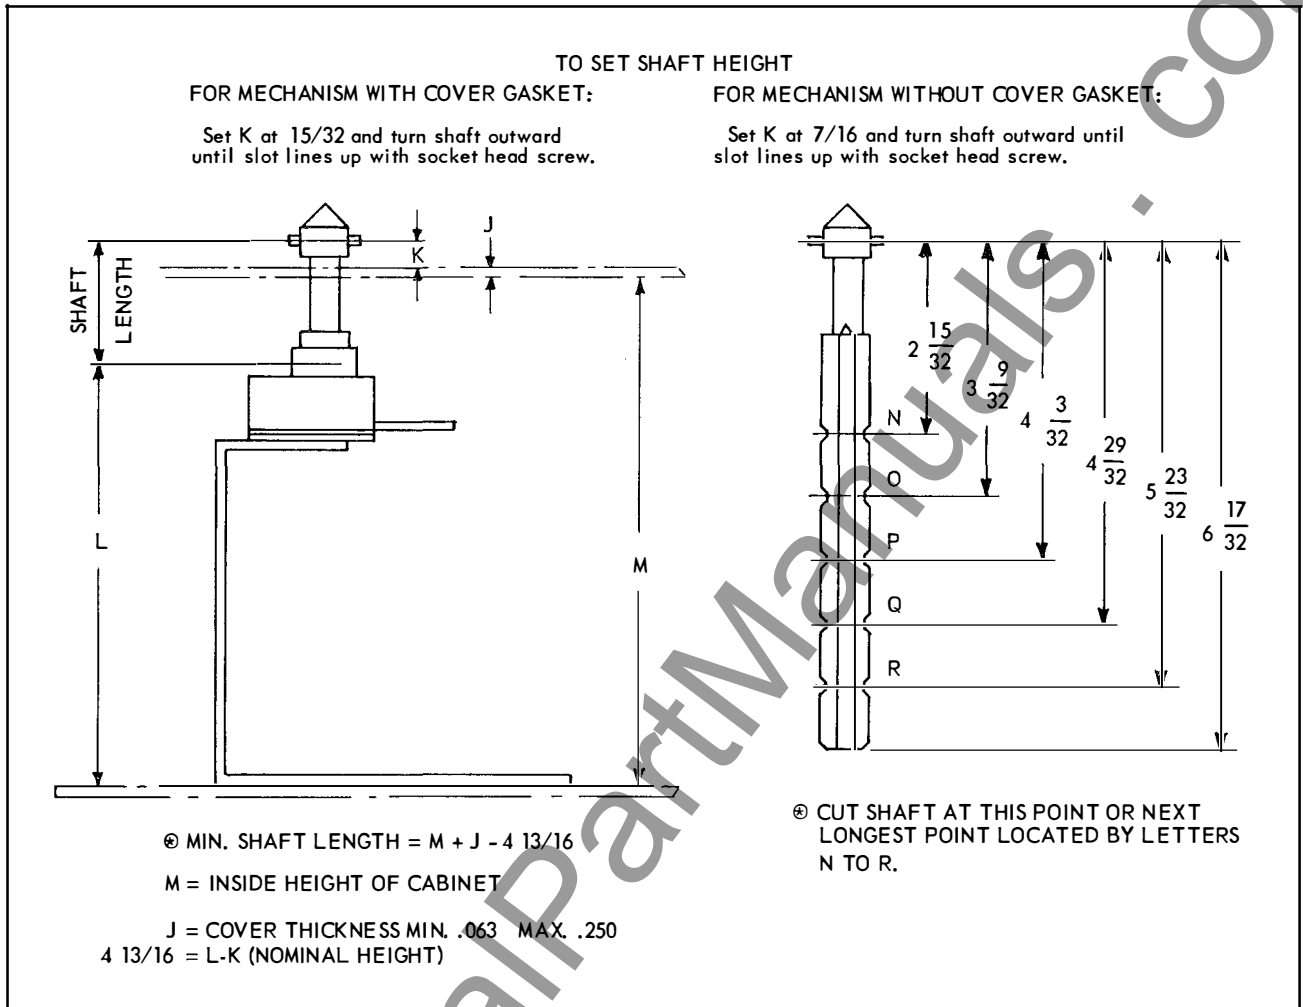
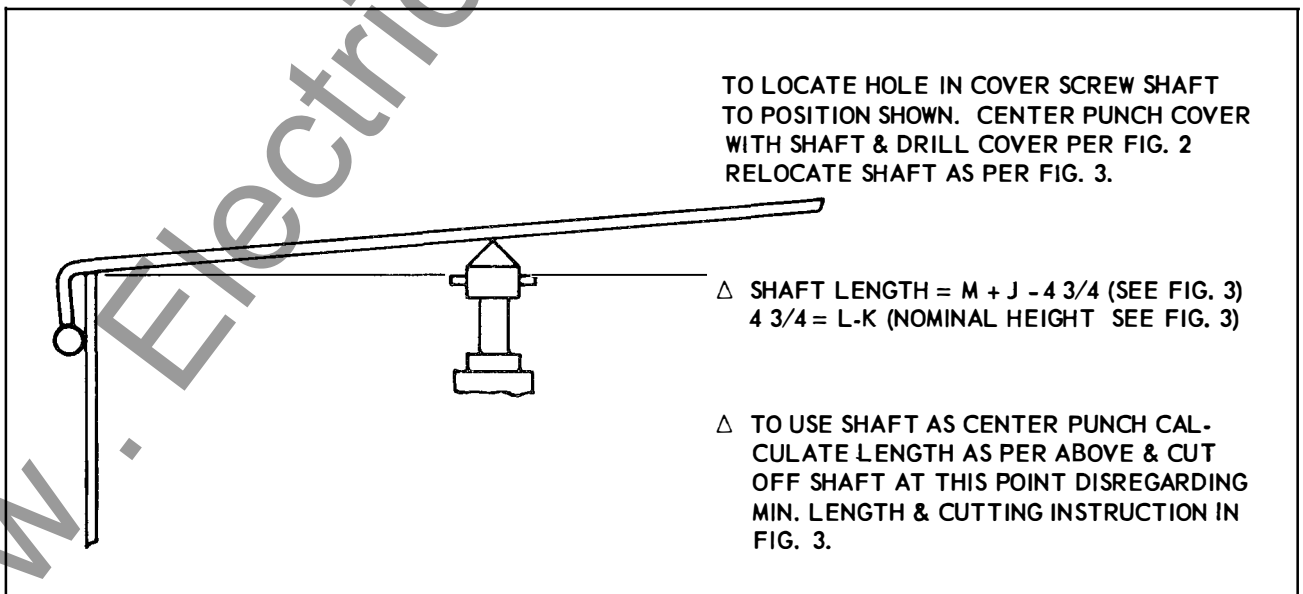

FIG. 3. Determining Length of Shaft
FIG. 4. Center Punching of Cover Using Shaft
3. Assemble operating assembly (5) to frame (4) with the three .190-32 round head screws packed in cloth bag.
4. Determine length of shaft (6) as per Fig. 3 and cut off at groove provided. Set K as shown in Fig. 3 and lock shaft (6) with socket head screw (2).
5. Shaft may be used as center punch to locate hole in cover (Fig. 2). Calculate length as per Fig. 4 and cut off at this point disregarding minimum length and cutting instruction in Fig. 3. Screw shaft to position shown in Fig. 4 and center punch. Drill cover per Fig. 2 and relocate shaft as per Fig. 3.